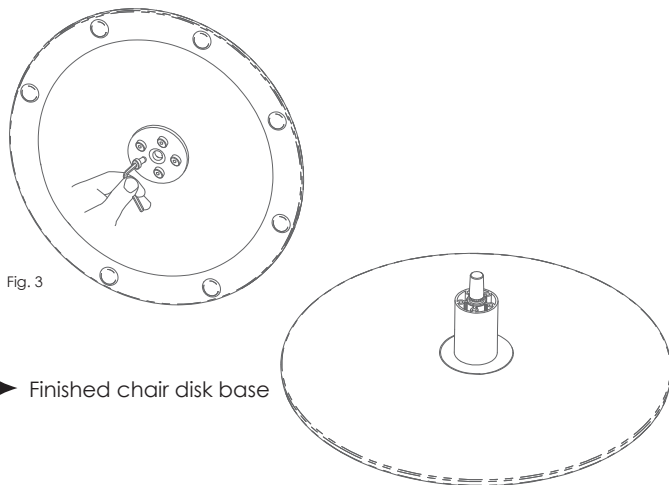

Fig. 3
STEP 3: Use hex key (F) to tighten each screw securely as shown in fig. 3 and the disk ringbase chair is completed (G).